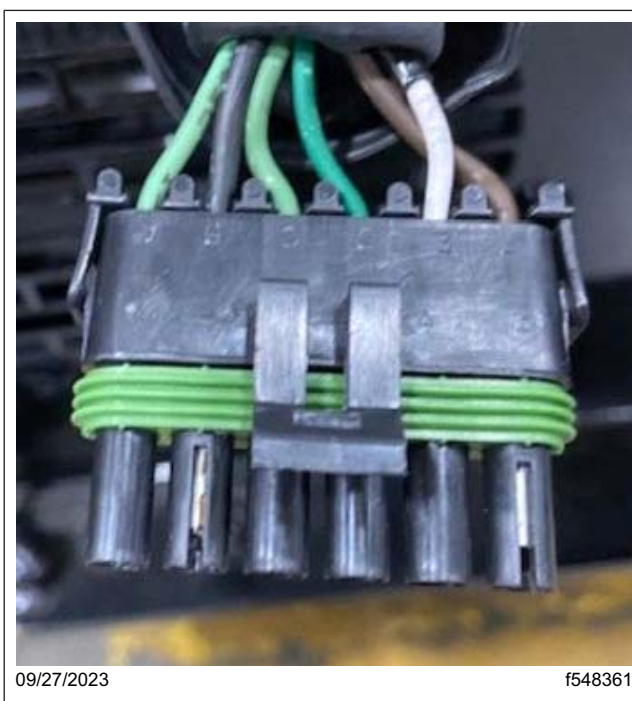

Fig. 93, Dual Plow Light Connector with the Rubber Boot Pulled Back to Expose the Wiring and the Cover Removed (one connector shown)
- Remove tape from the from the rubber boot on each of the two connectors. Pull the boot back away from each of the two connectors to expose the wiring at each connector. See Fig. 93.